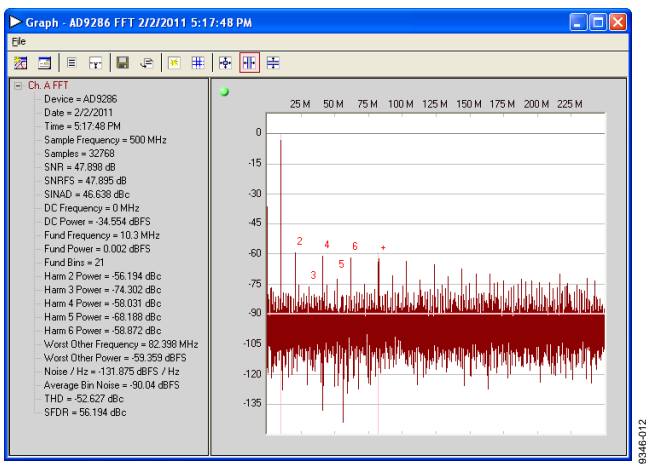

Figure 12. Graph Window of VisualAnalog
- Adjust the amplitude of the input signal so that the fundamental is at the desired level (examine the **Fund Power** reading in the left panel of the **VisualAnalog Graph - AD9286 FFT** window). See Figure 12.